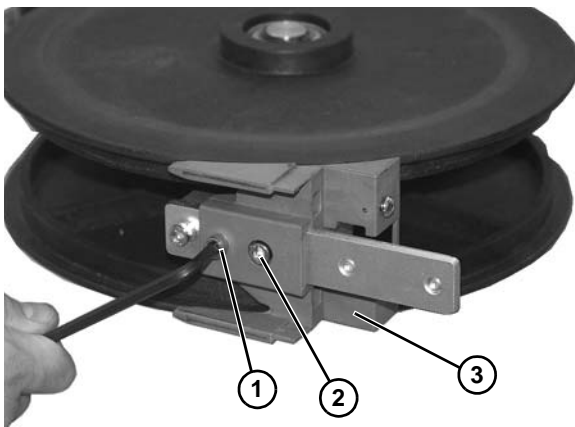

Figure 92
1. Remove socket head screw (Figure 92, item 1) and socket head screw (Figure 92, item 2) from corner wheel assembly pinch bracket (Figure 92, item 3).